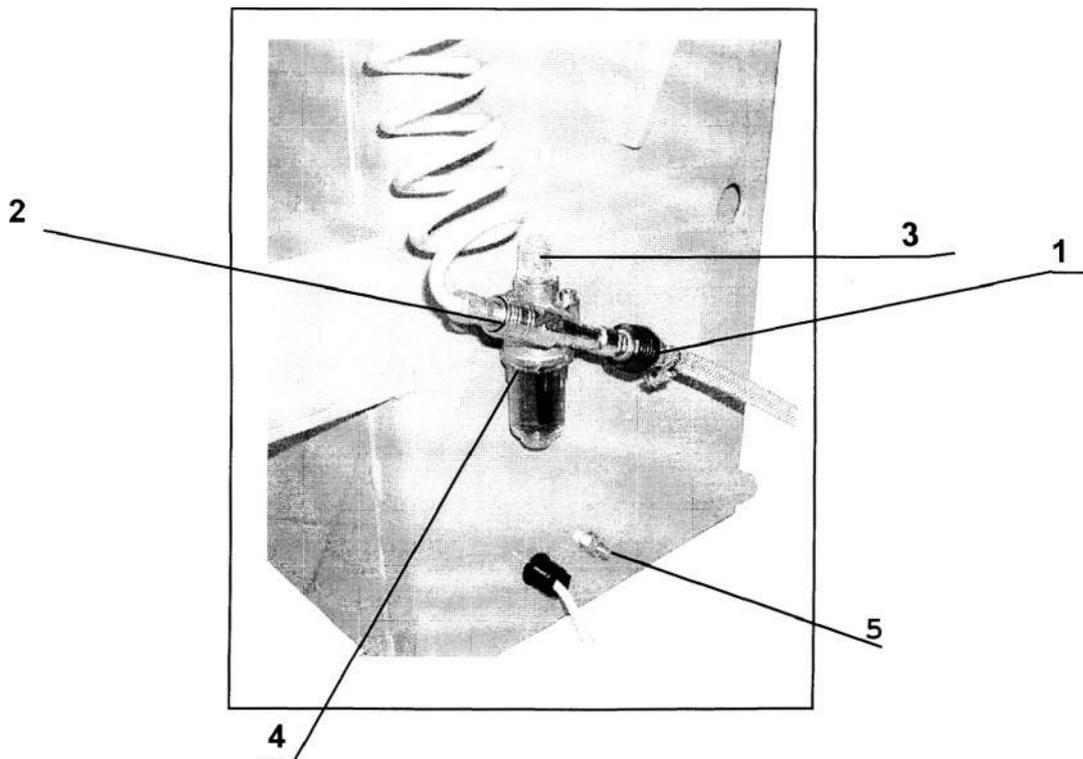

Fig. 1. Connections
3. Connect compressed air hose to supply coupling (item 1 fig 1). Use pneumatic hose min. 1 MPa working pressure, 8 mm inside diameter. Check whether oiler 5 is filled with oil.
Top - up compressed air lubricator with oil periodically (item 5 fig 1). In lubricator lid two screws can be seen; the smaller one is used for adjusting lubrication rate the larger one closes oil filler, through which oil may be injected with a syringe. The transparent reservoir may also be c a r e f u l l y unscrewed from the lubricator body and filled directly with oil. Use mineral oils, free of water and acids, 2 to 4 Angler viscosity (at 50 degrees cent.). HL 32 hydraulic oil is recommended. Air filter - water separator is maintenance - free - it is self - cleaning.